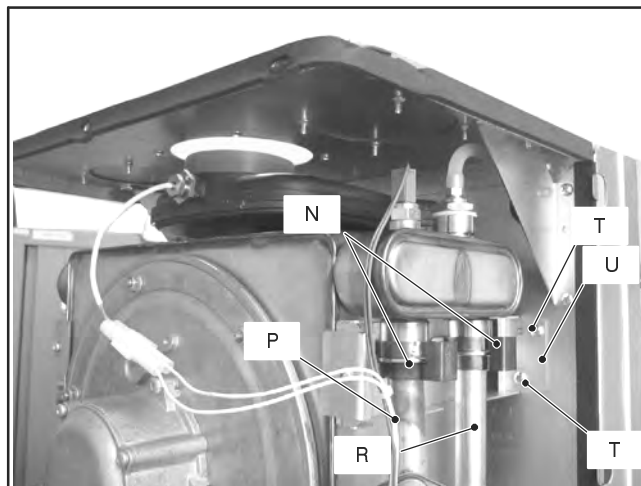

Fig. 5.6
- 10 Remove the clips *N* (Fig. 5.6).
- 13 Free the pipes *R* and *P* from the connection of the Condensing heat exchanger (Fig. 5.6).
- 15 Unscrew the screws *T* and remove the support *U* (Fig. 5.6).